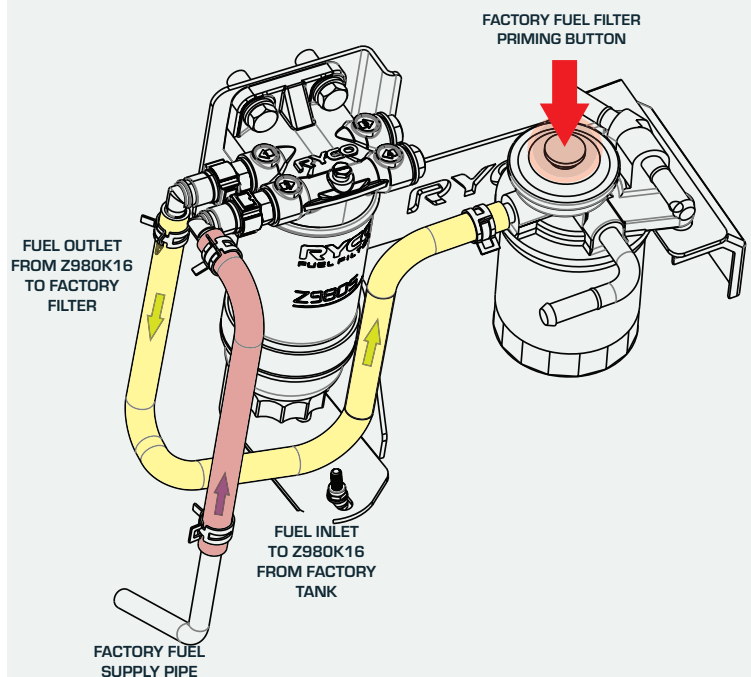

FIGURE 5
- 8 Connect the open end of the shorter supplied fuel hose (HF9804A coloured red in FIG. 5) to the factory fuel supply pipe and secure with a hose clamp. Connect the elbow connector to the inlet port of the Z980K16 by pushing the elbow connector onto the metal quick connector until you hear a “click”. See FIG. 5 for hose routing.
- 9 Connect the longer hose (HF9804B coloured yellow in FIG. 5) to the outlet port of the Z980K16 by pushing the elbow connector on to the metal quick connector until you hear a “click”, and connect the open end of the fuel hose to the factory fuel filter inlet port and secure with a hose clamp.